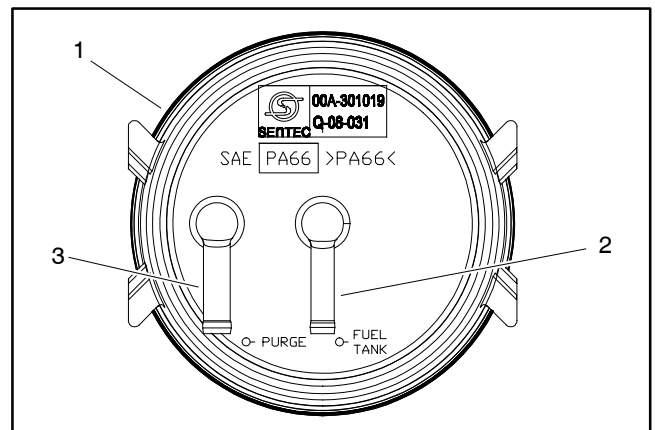

Figure 21
B. If carbon canister is to be removed, note hose positions on the canister for assembly purposes (Fig. 21).